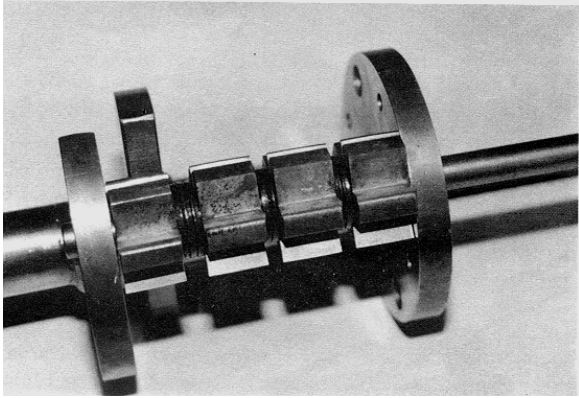

FIGURE 20
2) Install a flail next to the outside side plate of the wide section. Next, install two spacer washers. Follow with a flail and two spacer washers. Install another milling flail followed by three spacer washers. Finally, install the remaining flail and one spacer washer. The tungsten carbide inserts must be installed to form the same, continuous planing surface as in Step 1. FIGURE 20.